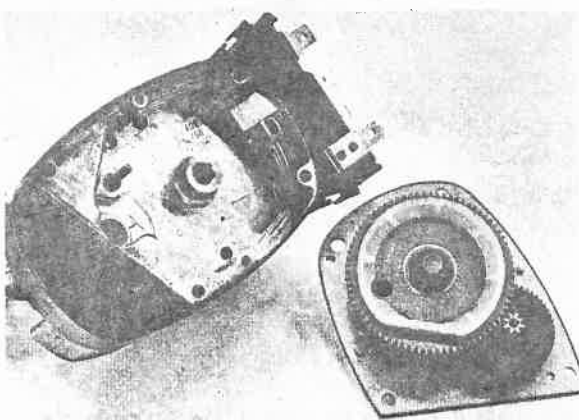

Fig. 36-17. Drive housing with drive and gear wheel
5. Remove the plate, gasket, gear wheel and drive from the drive housing, Fig. 36-17.